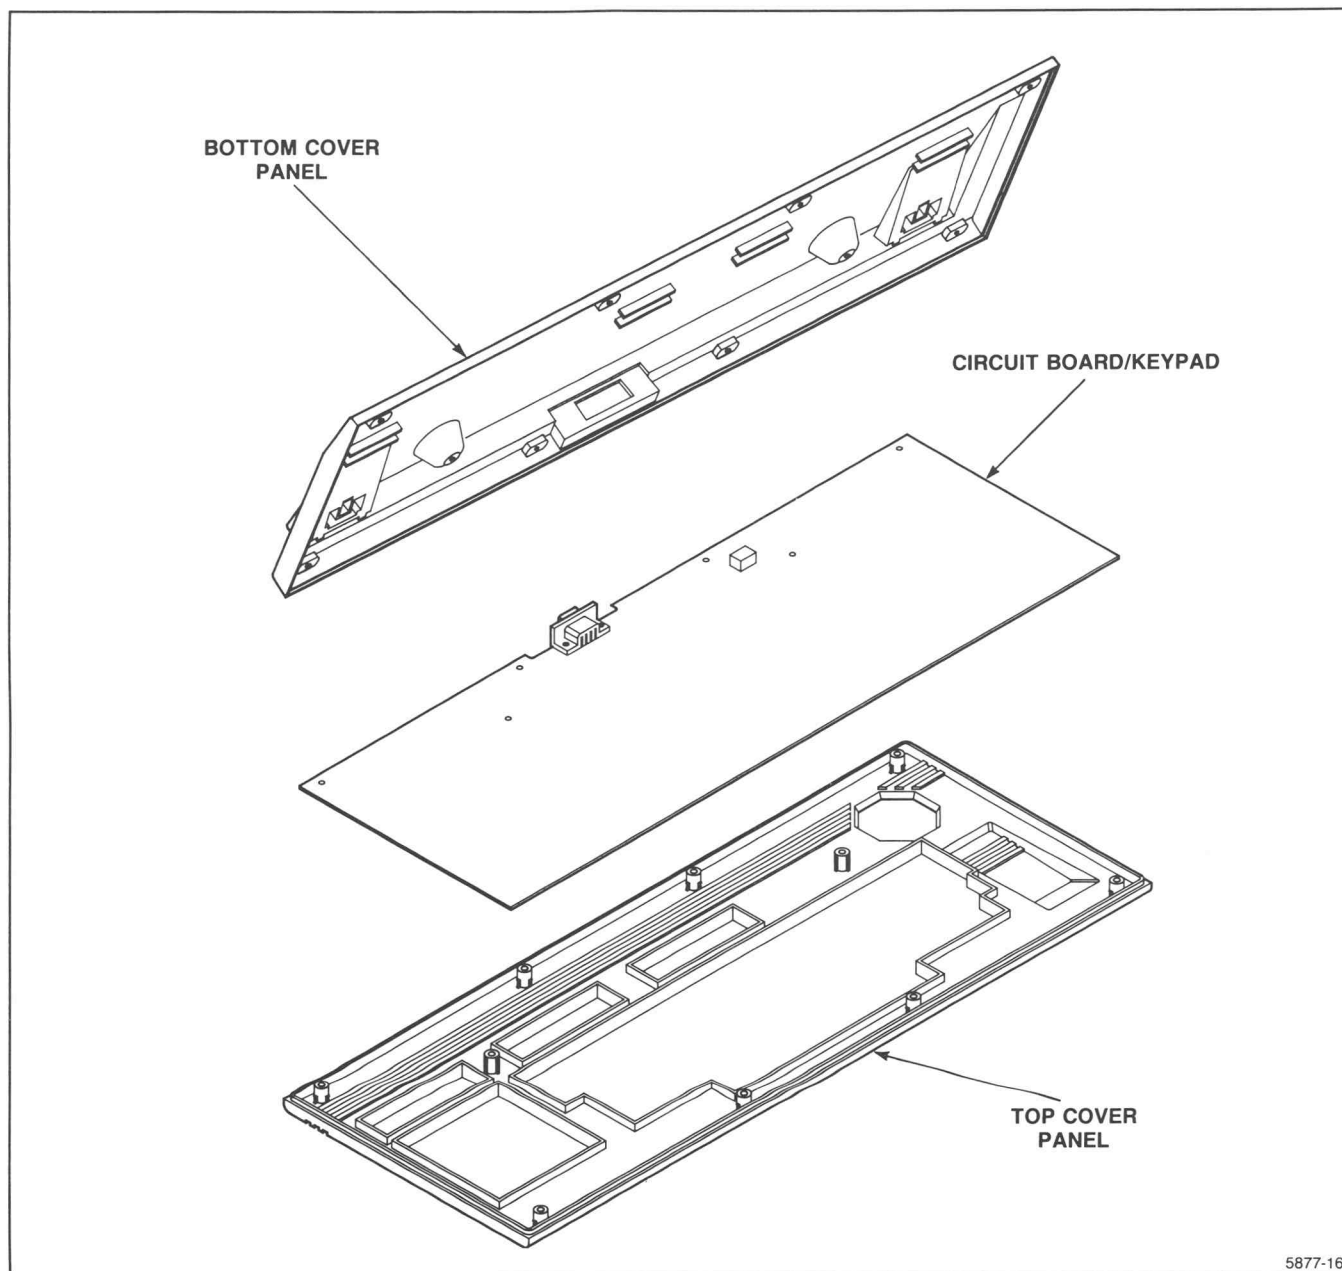

Figure 6-30. Removing the Keyboard Covers.
2. Refer to Figure 6-30. Remove the bottom cover panel, by lifting it off the keyboard assembly. Then lift the circuit board/keypad assembly out of the top cover panel and set the top cover panel aside.